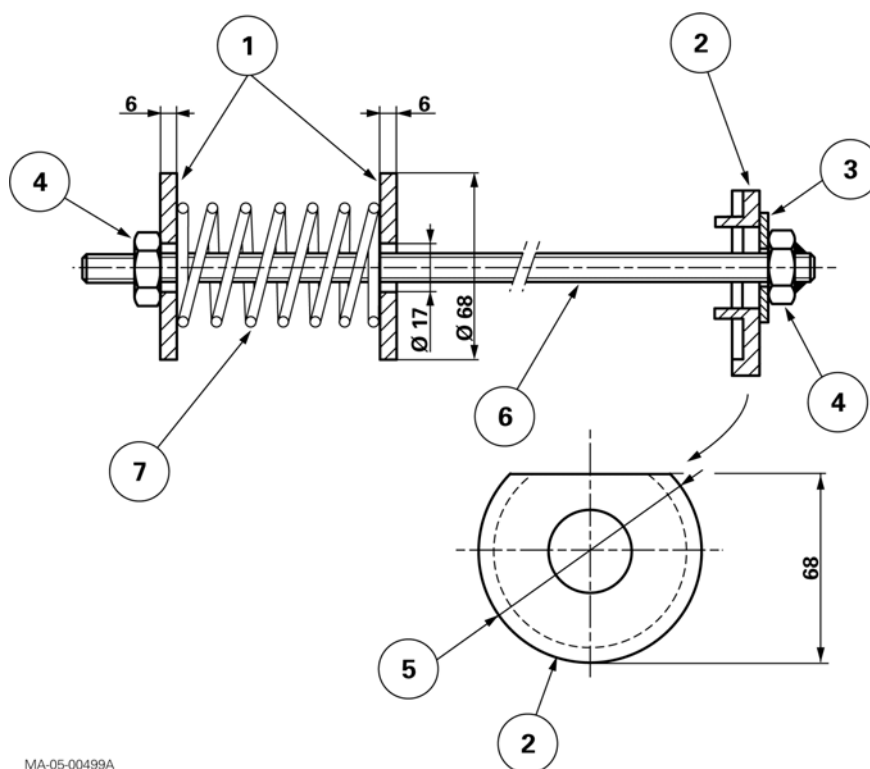

Fig. 9
- **Shaft supporting tool (Fig. 9)**
- (1) MF 1610037M2 washer, locally adapted
- (2) MF 3619200M2 washer, to be machined
- (3) LL 2U washer:
- (4) HM10 nut
- (5) ext. $\varnothing = 79.7 + 0 / -0.2$
- (6) M10 x 150 threaded rod: L = 1150
- (7) Spring: